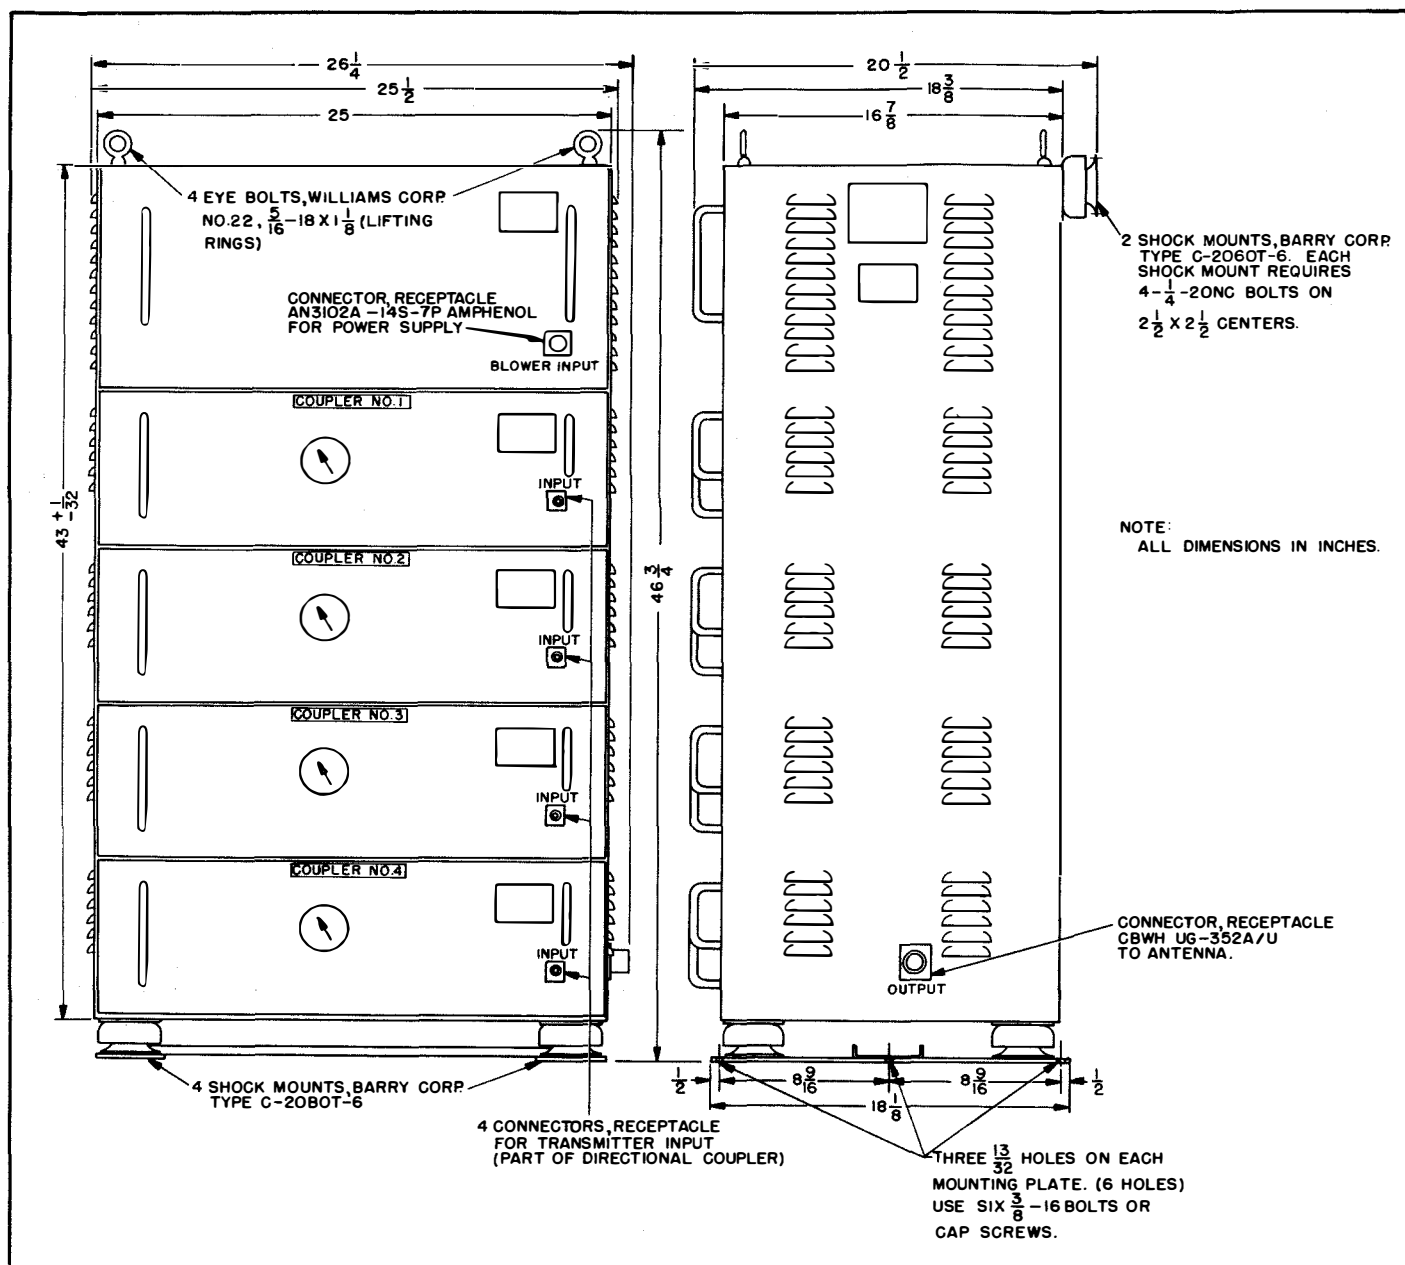

Figure 3-1. Coupler Group, Antenna AN/SRA-13, 14, and 15, Outline and Mounting Dimensions
b. LOCATION.—See figure 3-1 for an outline and mounting dimension drawing of Cabinet, Electrical Equipment CY-1670/SRA.
(1) ANTENNA COUPLERS.—Ascertain that the antenna coupler drawers are inserted in the cabinet, in the proper order, as shown in figure 3-1, i.e., numbering 1, 2, 3, 4 from top to bottom. Release the panel thumb screws and withdraw the drawers to the stop check to see that the short coaxial cable between directional coupler DC1 and input capacitor of the input impedance matching and coupling circuit are properly connected. Operate the controls and observe if the variable capacitors and output-coupling loop change position. Push the drawers into the cabinet and tighten the knurled thumbscrews securing the front panel.
(*d*) Make sure that the transmitter operating at the highest frequency is connected to COUPLER NO. 1 (see figure 3-1). The transmitter operating on the next to the highest frequency should be connected to COUPLER NO. 2, and so on.